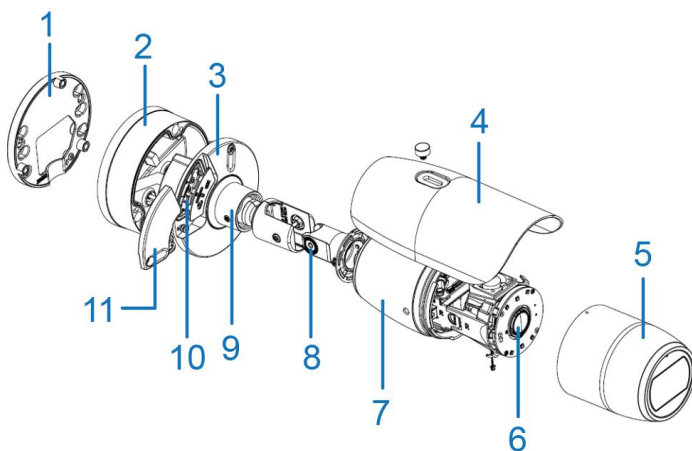

Figure 1
Camera Parts: Figure 1
- i. Unlock the screw (9) (Figure 1) and tilt the camera body.
- ii. Unlock and screw (8) (Figure 1) and pan the camera body.